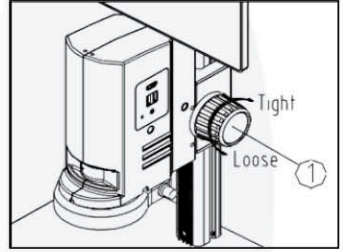

Fig.5
- To adjust the focusing tension, grip the left knob and rotate the right knob (1). It will be tighten when rotated in clockwise, while loosen in counter-clockwise. (See Fig.5)